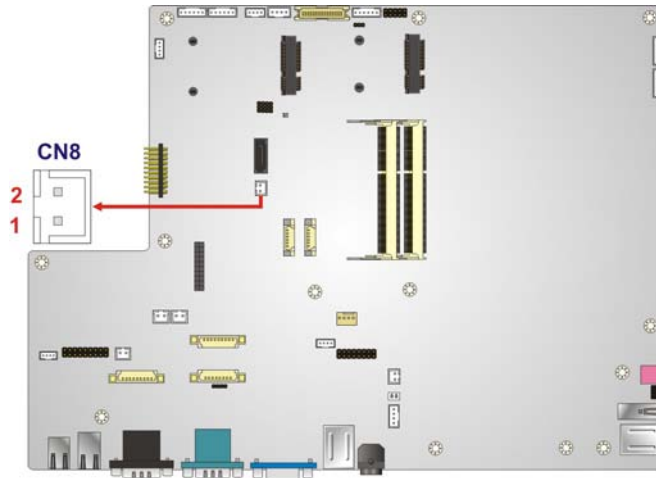

Figure 5-29: SATA Power Connector Locations
- CN Location: See **Figure 5-29**